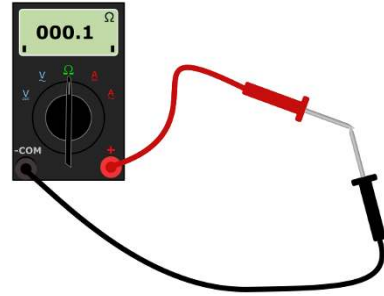

Figure 16-6: Touch the test probes of the meter together and verify a zero ohms reading to make sure the meter is working properly.
3. **Plug both test probes into the proper connectors of the meter and then touch the ends of the two probes together (see Figure 16-6).**